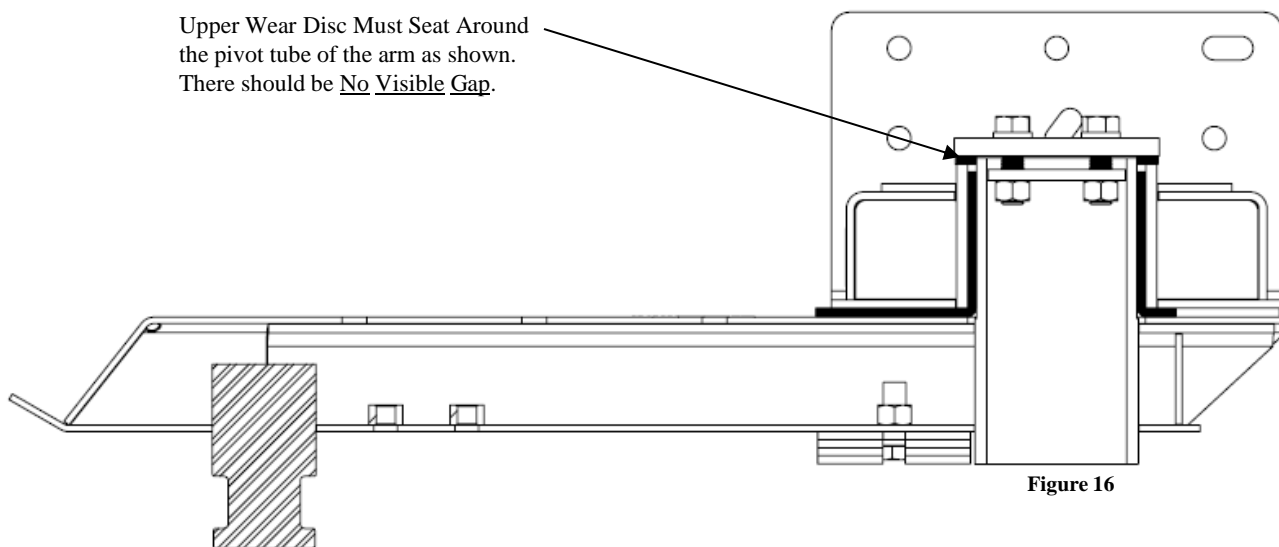

Figure 16
6. Before attempting to fully tighten the (4) 5/8-11 cap bolts, it is necessary to check that the upper wear disc is properly positioned. Refer to the figure below (figure 16).